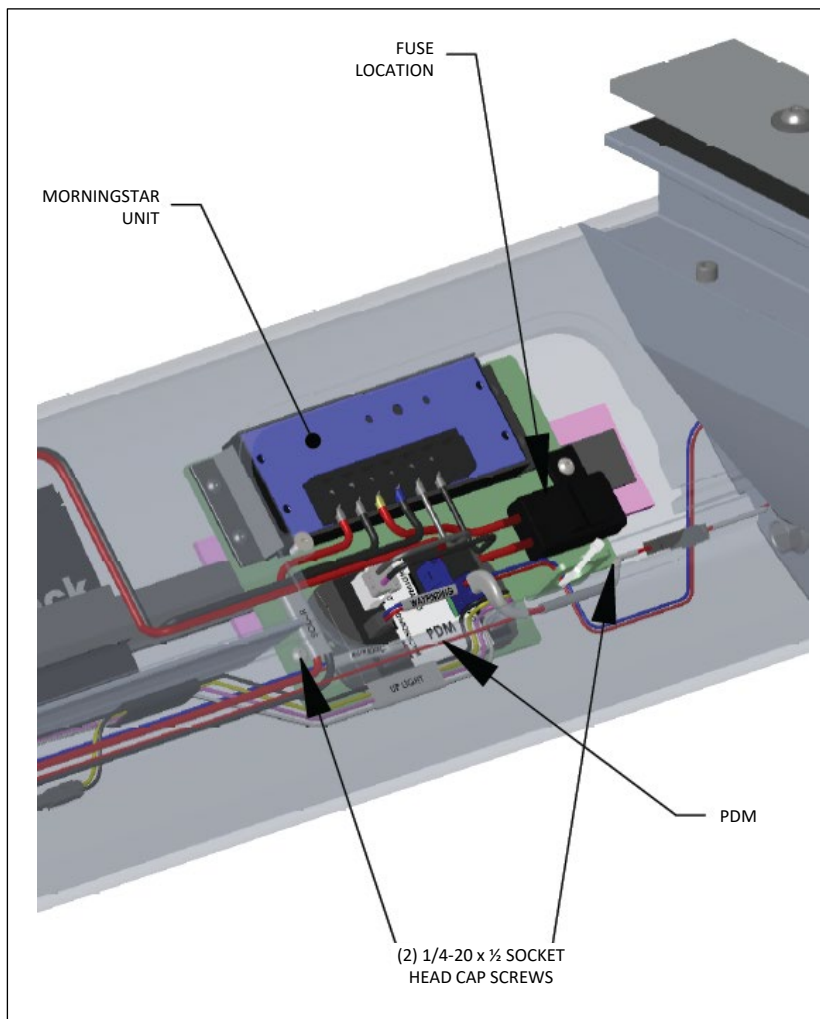
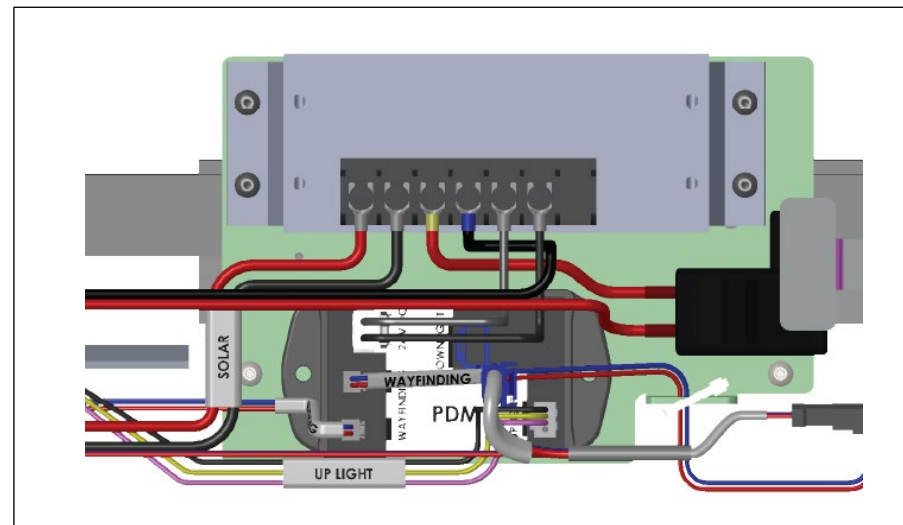

Fig. F9 – Install driver plate assembly, front right access hole
Fig. F10 – solar wiring connections
7. Driver plate assembly: Attach driver plate to front horizontal beam, in the front right access location, see Fig. F9.
8. Make connections to PDM as labeled: Uplight, Wayfinding (x2), Downlight, see Figs. F10 and F11. Make connections to Morningstar unit, in the order noted on the device. When all of the wiring connections are complete, install the fuse, see Fig. F9.